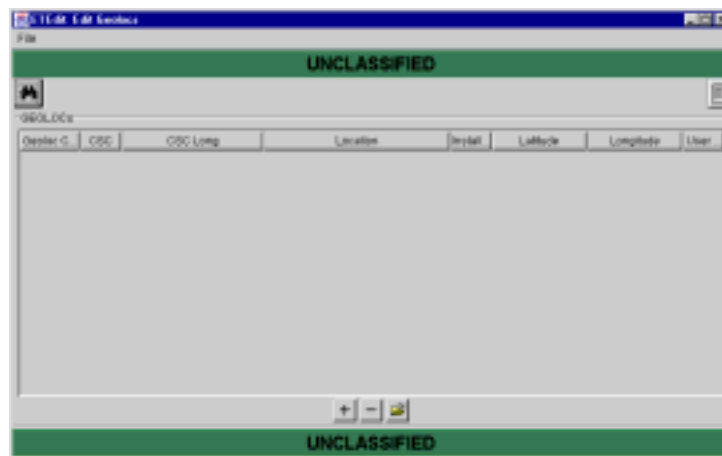

Figure 5.165 ETEdit: Edit Geolocs Window
2. On the ETEdit (main) window, on the Reference menu, click GEOLOC FILE>Edit GEOFILE. The ETEdit: Edit Geolocs window opens (Figure 5.165).